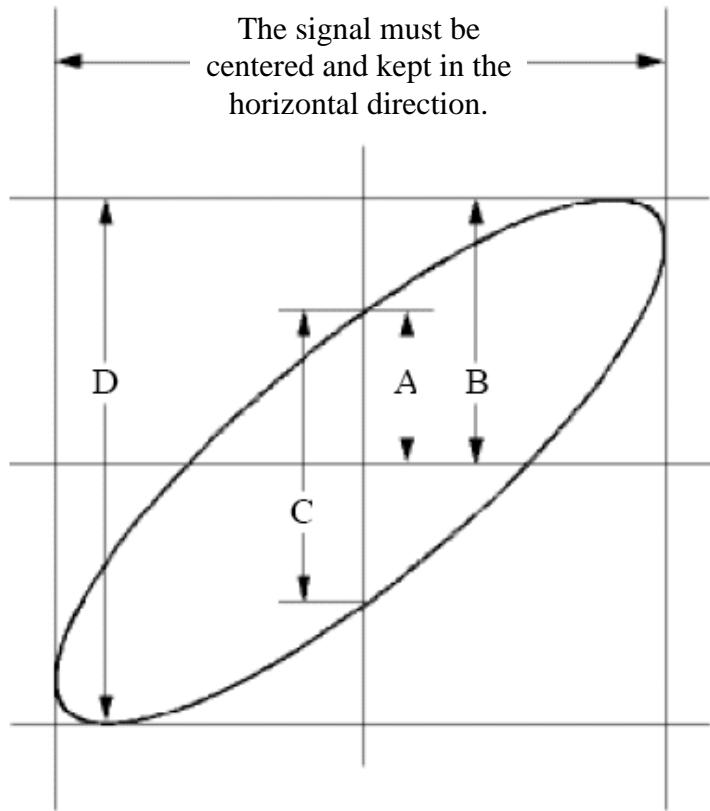

Figure 6-6 Lissajous Graph
- (8) With the elliptical oscilloscope method adopted, observe and calculate the phase difference (see *Figure 6-6*).